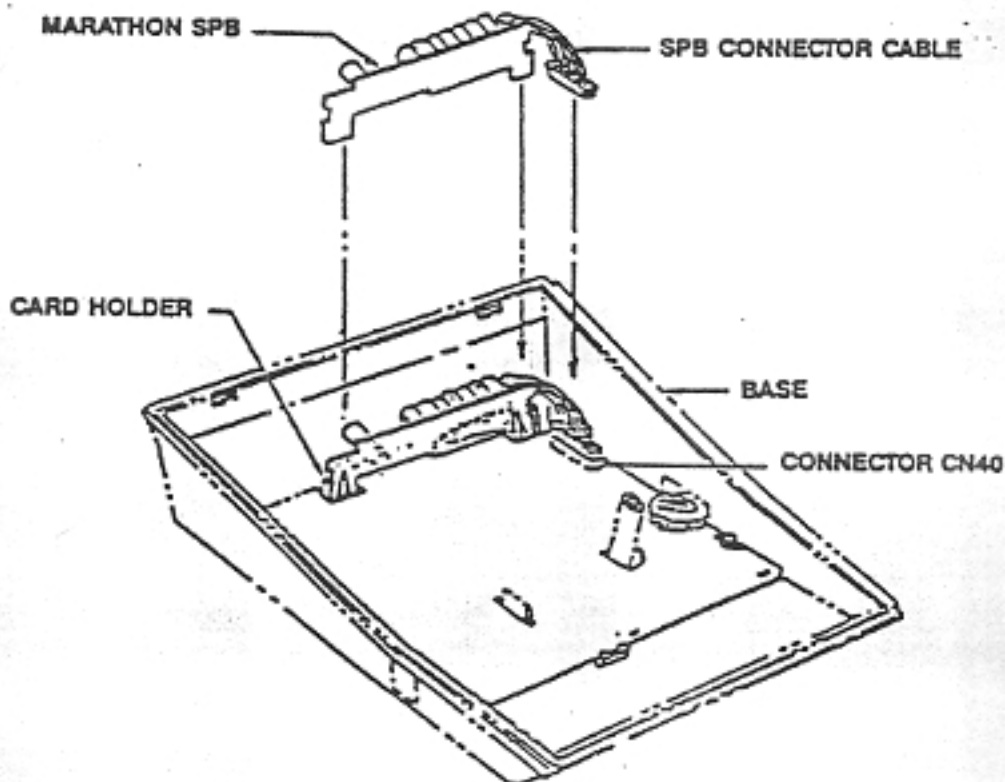

Figure B-1 Speakerphone Installation
3. Place a MARATHON SPM into the card holder located on the upper middle of the base and plug a connector cable from the SPM into the connector CN40 located at the base as show in Figure B-1.